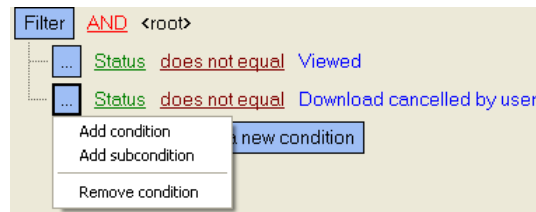

Fig. 2.6—9 Condition menu
- 1.2. Remove a condition. To remove a condition, click the corresponding item in the condition menu (Fig. 2.6—9).